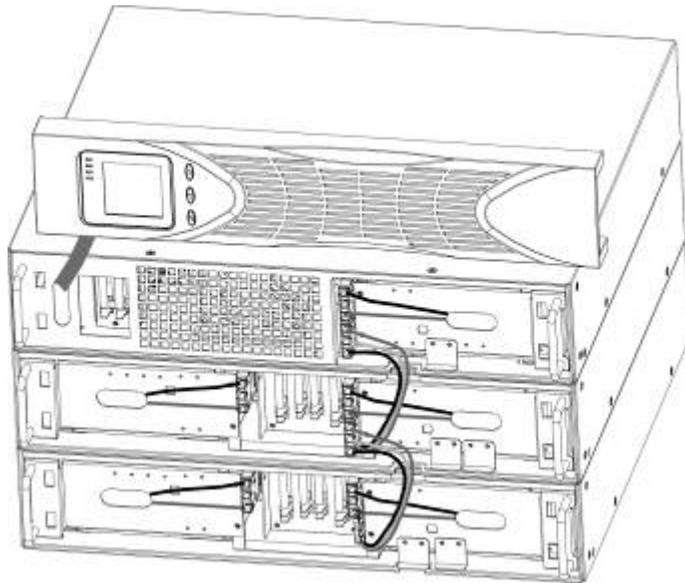

Figure12 Typical EBP Installation
5. Plug the EBP cable(s) into the battery connector(s) as shown in Figure 12. Up to four EBPS may be connected to the UPS. Connect black to black,. Press the connector tightly together to ensure a proper connection.